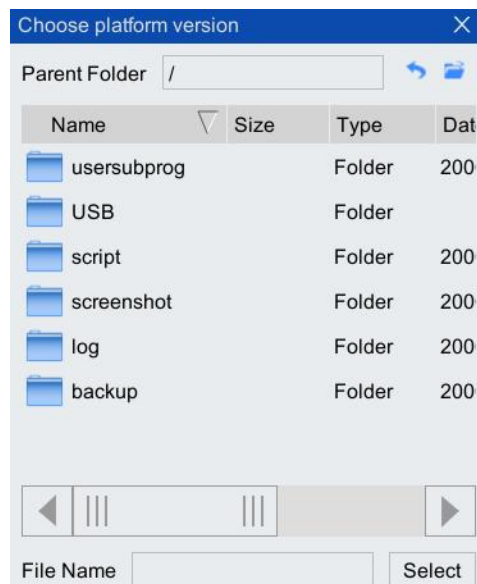

Figure 8-49 "Select platform version" list box
Step1. On the main interface of the teach pendant, click "System > System and Update > Version Update" option, the "Select Platform Version" list box pops up, as shown in Figure 8-49.